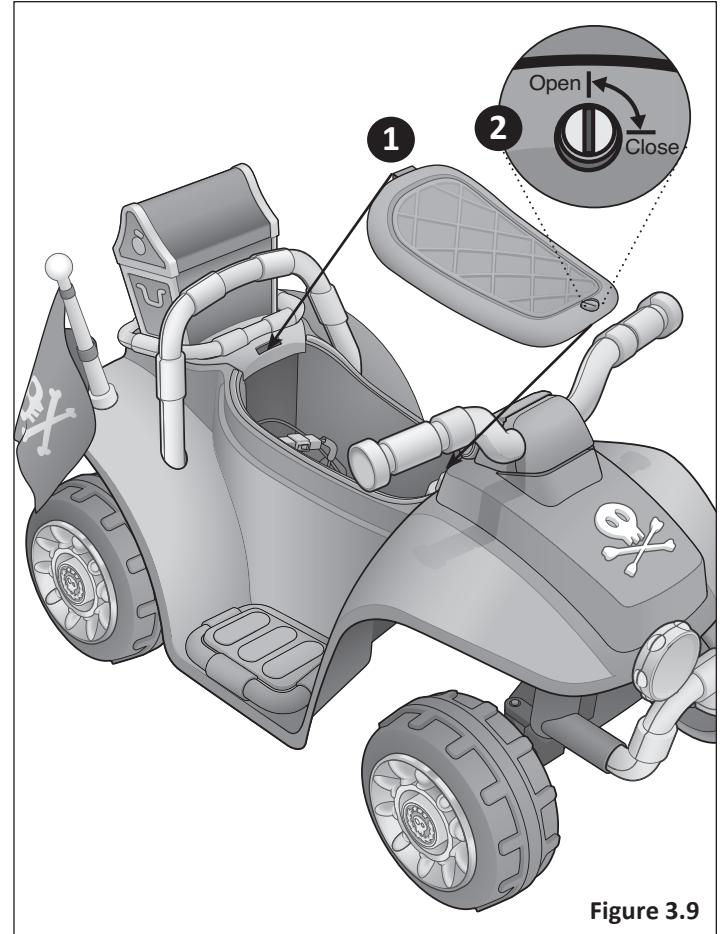

Figure 3.9
- 1 Insert the seat tab into the seat slot located at the back of the seat compartment. **Figure 3.9**